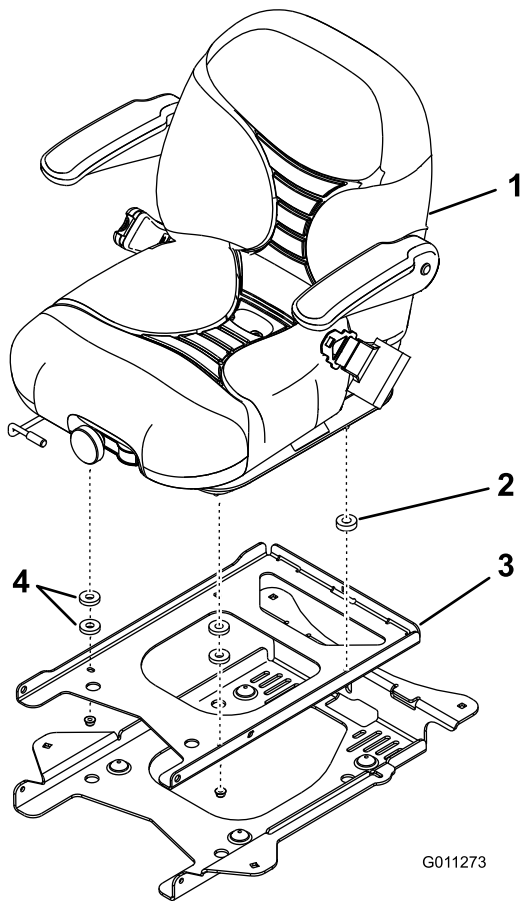

Figure 9
2. For deluxe seats only, install the spacers as shown in Figure 9.